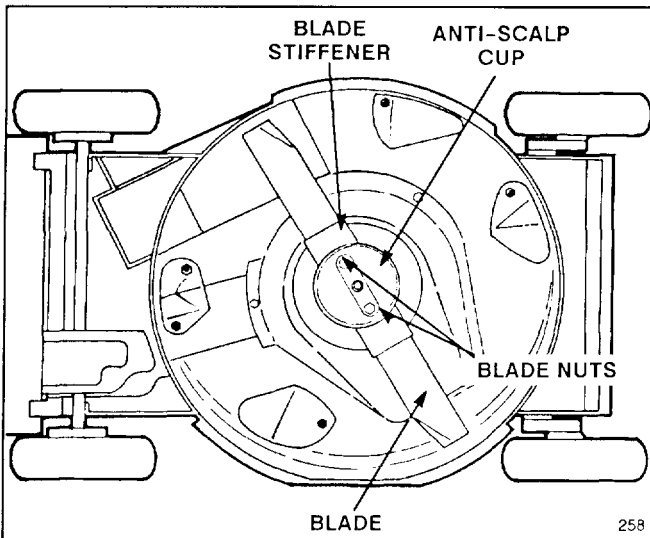

Figure 17
3. Tip mower on its left side (Fig. 17). Avoid rotating blade as starting problems may result.
5. **REMOVING BLADE**—Grasp end of blade using a rag or thickly padded glove. Remove (2) blade nuts, anti-scalp cup, blade stiffener, and blade (Fig. 17).